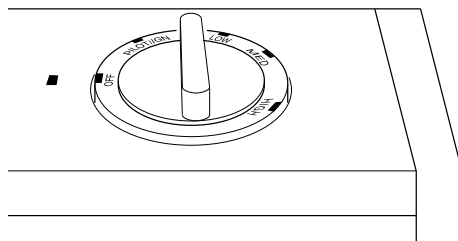

Figure 18 - Control Knob In The OFF Position
3. Turn control knob clockwise  to the OFF position (see Figure 18).
4. Wait five (5) minutes to clear out any gas. Then smell for gas including near the floor. If you smell gas, STOP! Follow "B" in the safety information at left. If you don't smell gas, go to the next step.
5. Turn control knob counterclockwise  to the PILOT/IGN position. Press in control knob for five (5) seconds (see Figure 18).